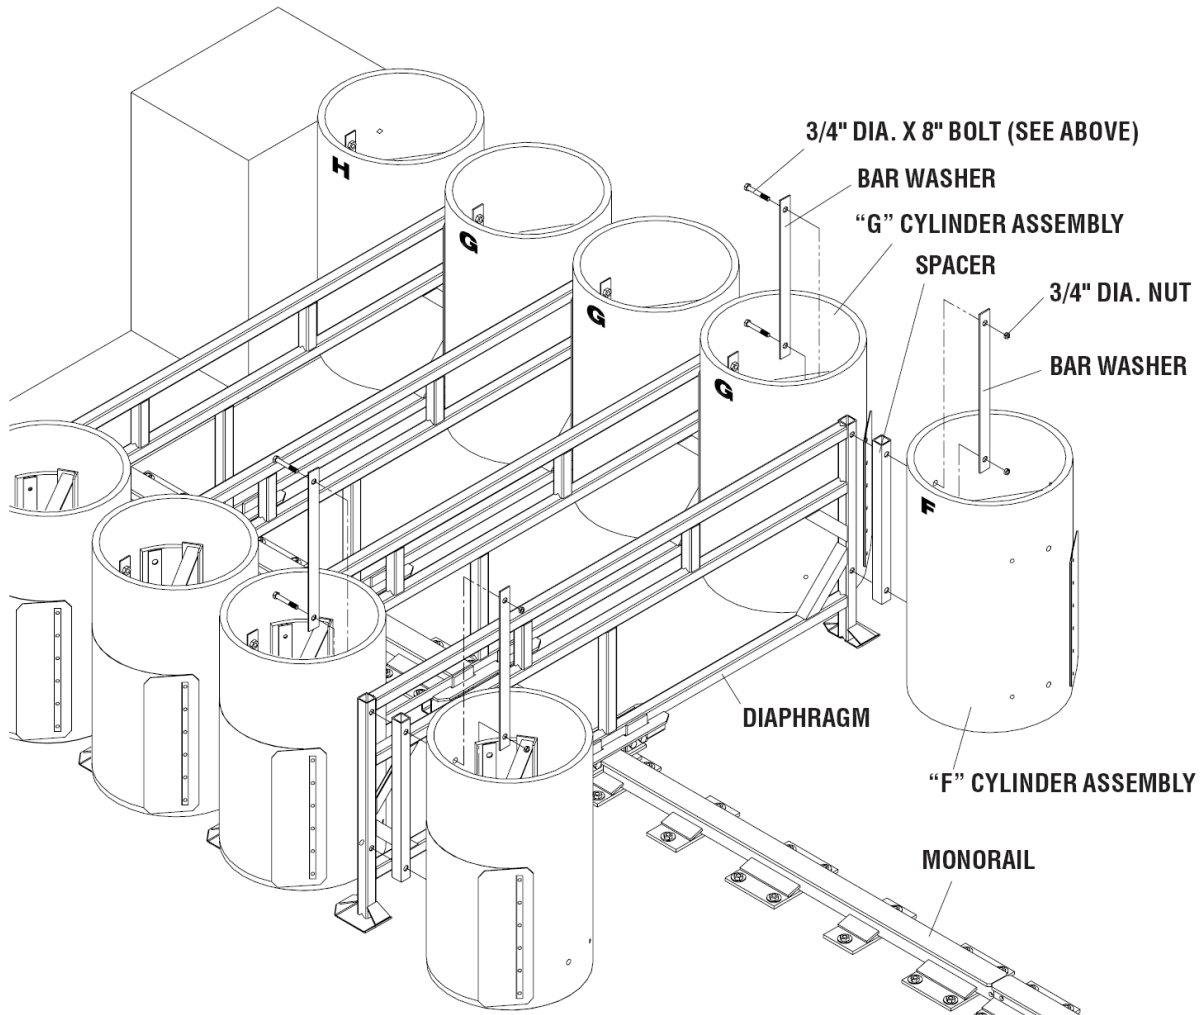

Figure 25
3. Reassemble "F" Cylinder/Diaphragm Assembly onto "G" Cylinder Assemblies as shown in Figure 25.